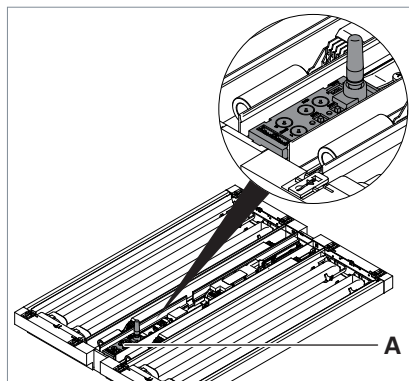

Fig. 2: Wireless module in TYCOON luminaire head.
- ▶ Insert the wireless module **A** into the unused area in the central support of the luminaire head, see Fig. 2.